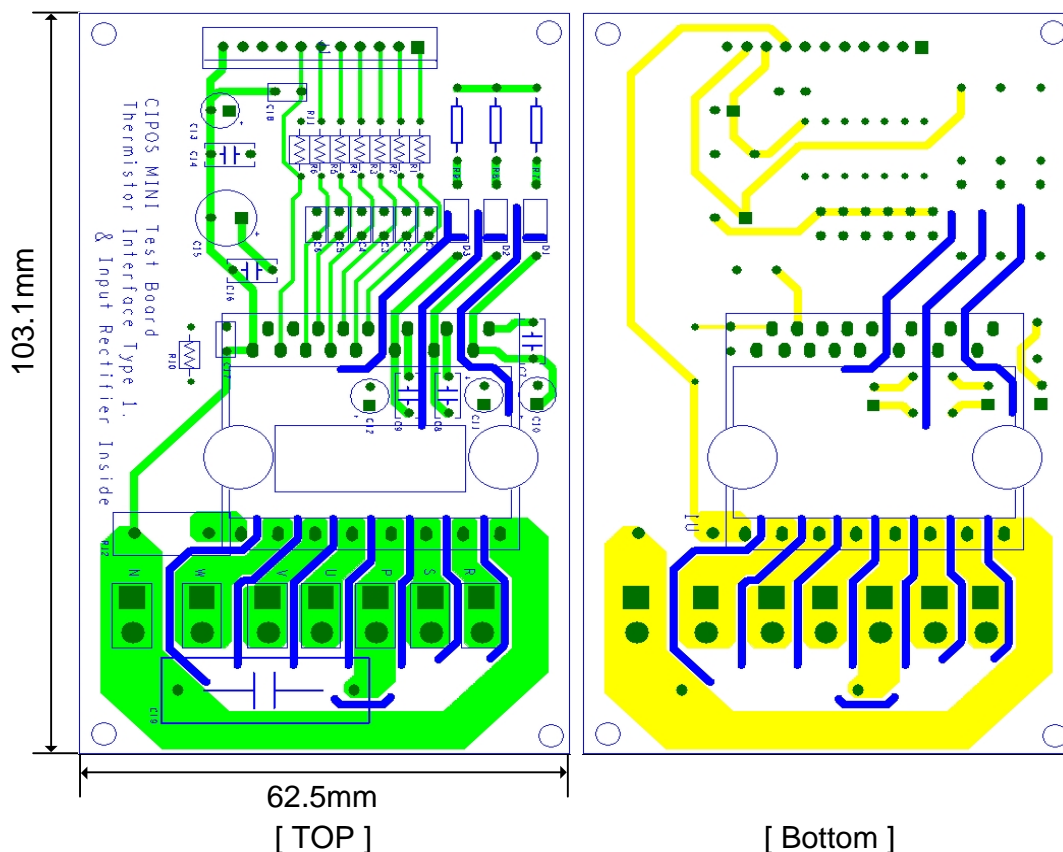

Figure 10. Layout of reference board for IGCM06B60GA
2. The connection between emitters of CIPOS™ (N) and shunt resistor should be as short and as wide as possible.
6. In order to detect sensing voltage of the shunt resistor exactly, both sensing and ground patterns should be connected at pins of the shunt resistor and should not be overlapped with any patterns for load current as shown in Figure 10.